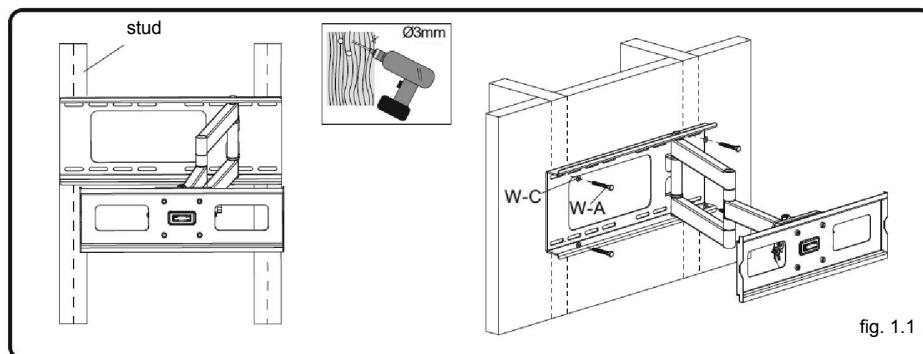

fig. 1.1
- Drill four holes 3mm in diameter and 30mm in depth. Secure the plate using four lag bolts (W-A) and four washers (W-C) as shown in fig. 1.1.